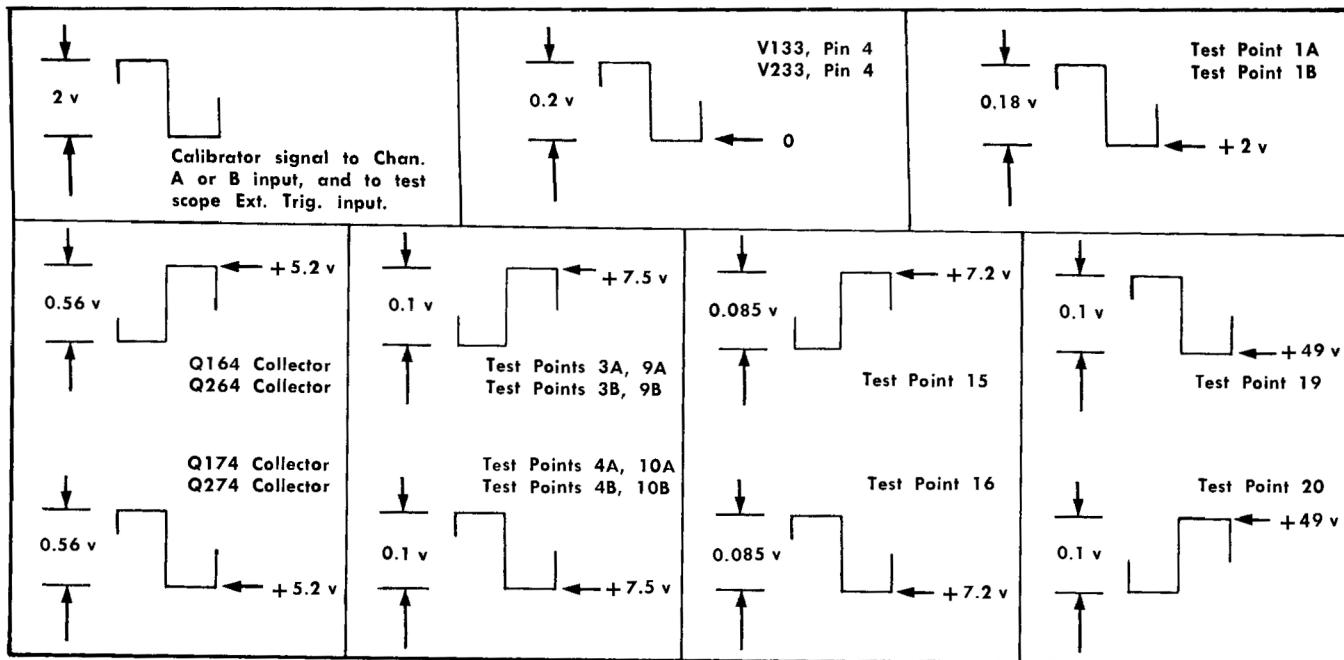

Fig. 4-11. Checking X1 voltage gain. Set GAIN switch to X1 and V/CM switch to 1.
The amplitude and dc level shown adjacent to the waveform drawings in Figs. 4-11 and 4-12 are intended to be used as a guide and are not absolute. They may vary due to gain-adjustment settings, normal manufacturing tolerances, and characteristics of Zeners, transistors and tubes. In addition, the power-supply voltages applied to the Type 82 vary between oscilloscopes within
3. Apply a 2-volt peak-to-peak calibrator signal from the Type 580-Series Oscilloscope to the appropriate INPUT connector of the Type 82. Also, apply the calibrator signal to the External Trigger input connector on the test oscilloscope. (Use items 6 and 7 in the Test Equipment list for this purpose.)
4. Connect a third lead (item 8) between the test oscilloscope ground terminal and the Type 82 ground.
6. Touch the tip of the probe to the CAL. OUT connector on the Type 580-Series Oscilloscope. Set the front-panel controls on the test oscilloscope to display one or two cycles of the calibrator waveform. (Use a sweep rate of 0.1 millisecond/cm or 0.2 millisecond/cm.) Be sure to set the test oscilloscope triggering controls for external triggering and to display the first $\frac{1}{2}$ -cycle of the waveform as positive-going. The displayed waveform will then correspond to the input waveform polarity as shown in Fig. 4-11 and 4-12. Disconnect the probe.